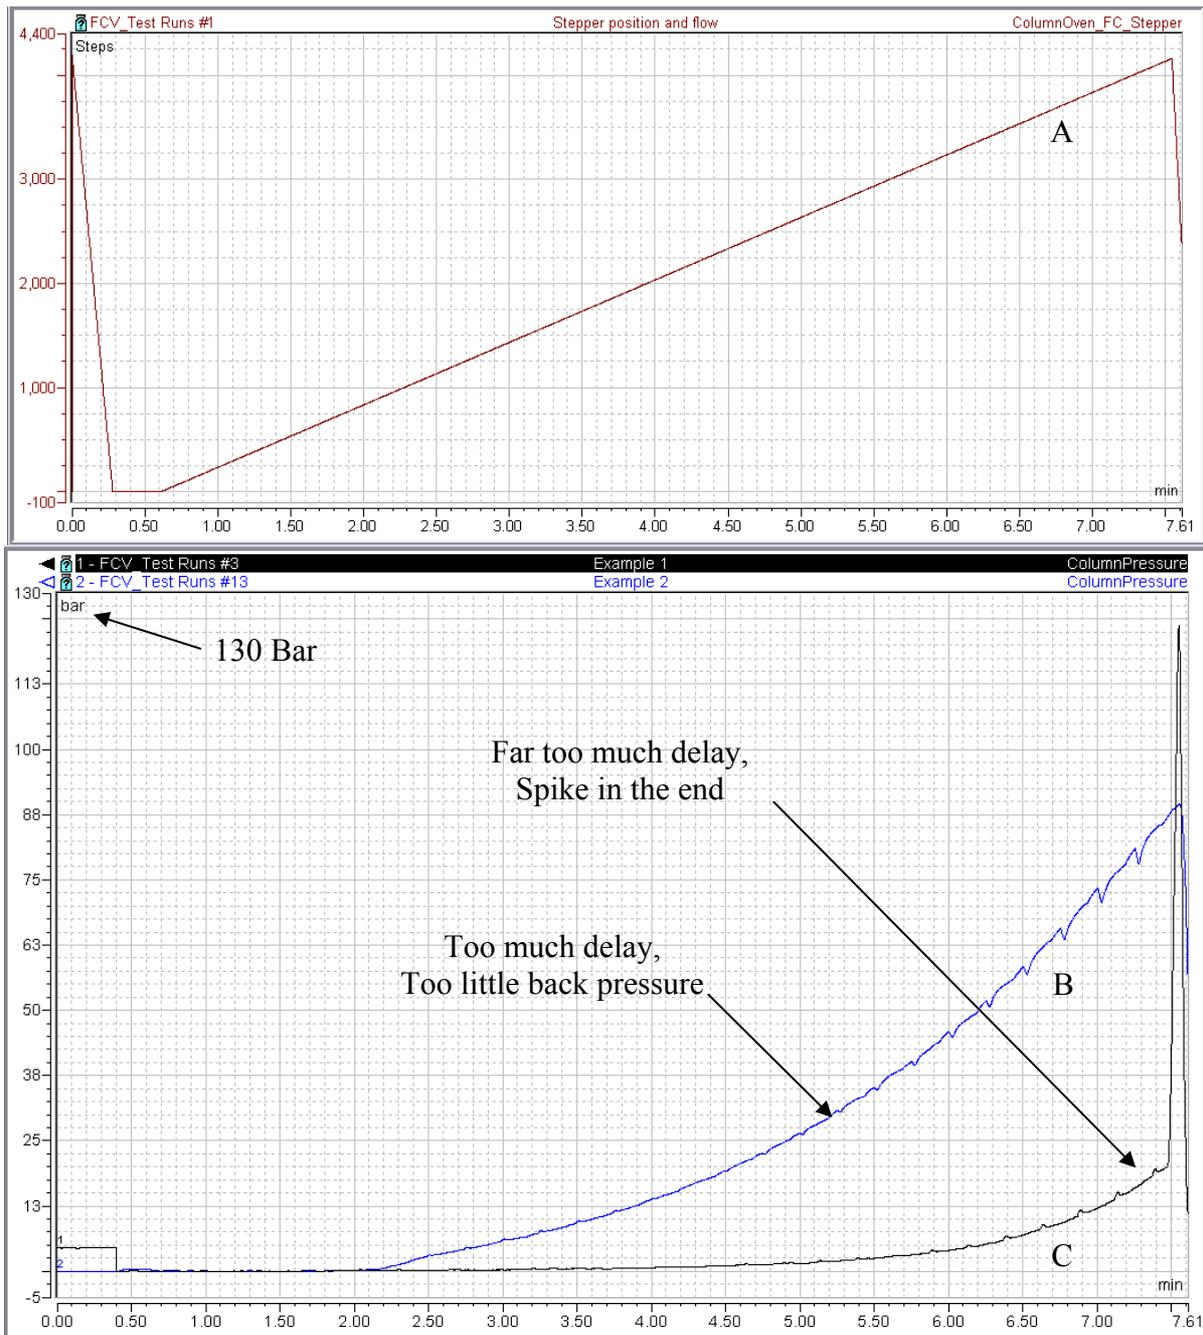

Fig. 5: Test Results of different Flow Control Valves with dirt
Fig. 5 presents typical data from flow control valves that are not working properly because of dirt. Cleaning of the valve (→ section 3) may most likely restore the valve.
- Fig. 5 A – Stepper motor position (as reference).
- Fig. 5 B – Too much delay, pressure builds up too late and too slow.
- Fig. 5 C – Pressure increases too slowly, pressure spike in the end of the test run.